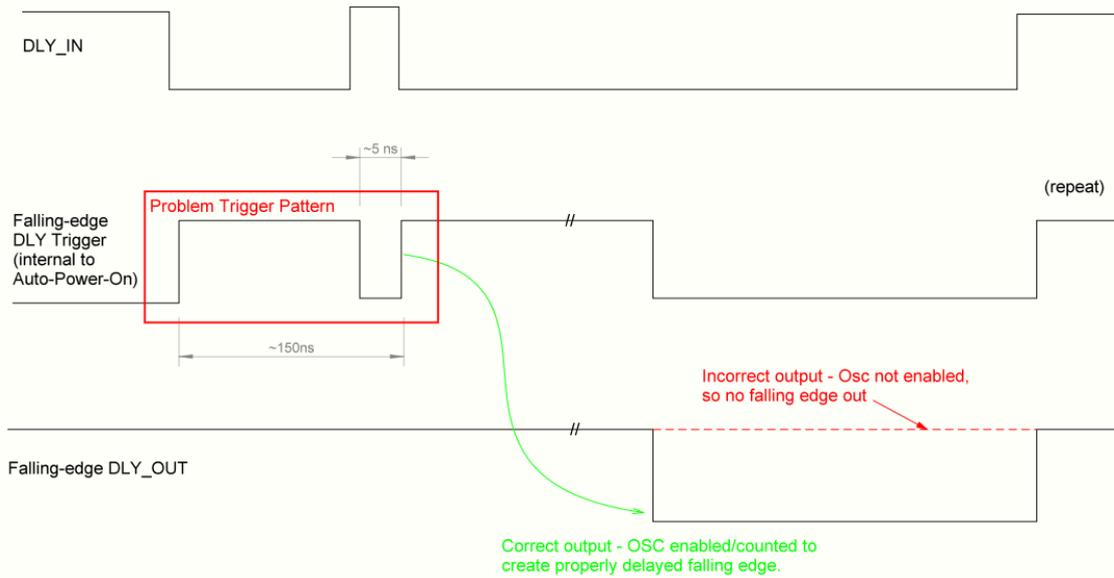

Figure 11. Problem Trigger Pattern
4. OR of OSC trigger signals from all DLYs clocked by the same OSC together form a long+short glitch pattern with precise (ns) timings as shown in Figure 11. The trigger signal generation per DLY is detailed in the section Technical Description.
For this chip, the Auto Power On circuitry of the 25 kHz/2 MHz generators contains a circuit errata, which can potentially fail to power on the OSC for a specific pattern and timing of the OR of all related DLY trigger signals. The pattern is shown in Figure 11 (boxed in red) and consists of a relatively longer pulse (~145 ns) followed by a shorter (~5 ns) glitch of opposite polarity.